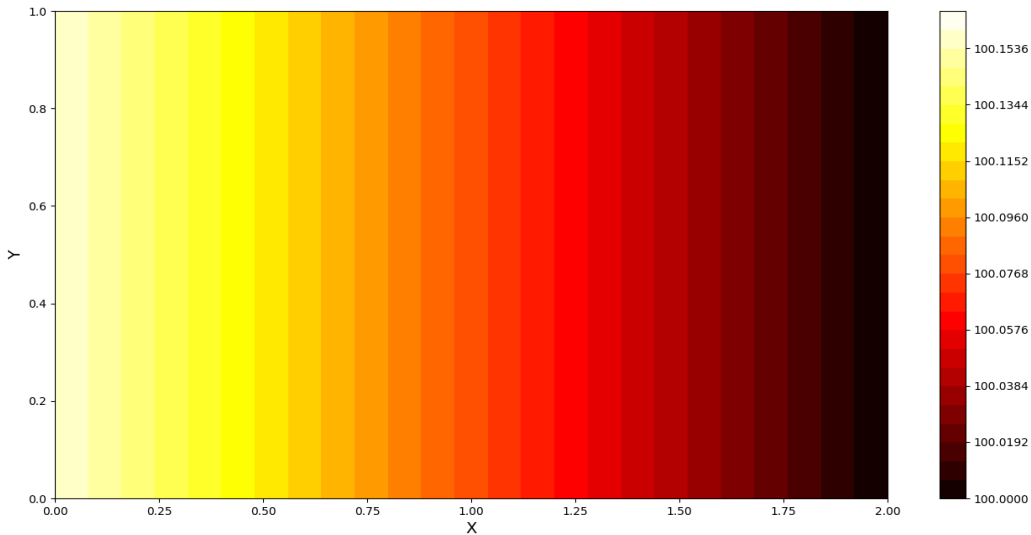

Figure 2: Pressure iso-contour at steady state
- Figure 2. Shows pressure distribution to be constant in y direction, but variable from 100.00 to 100.16 in x direction.